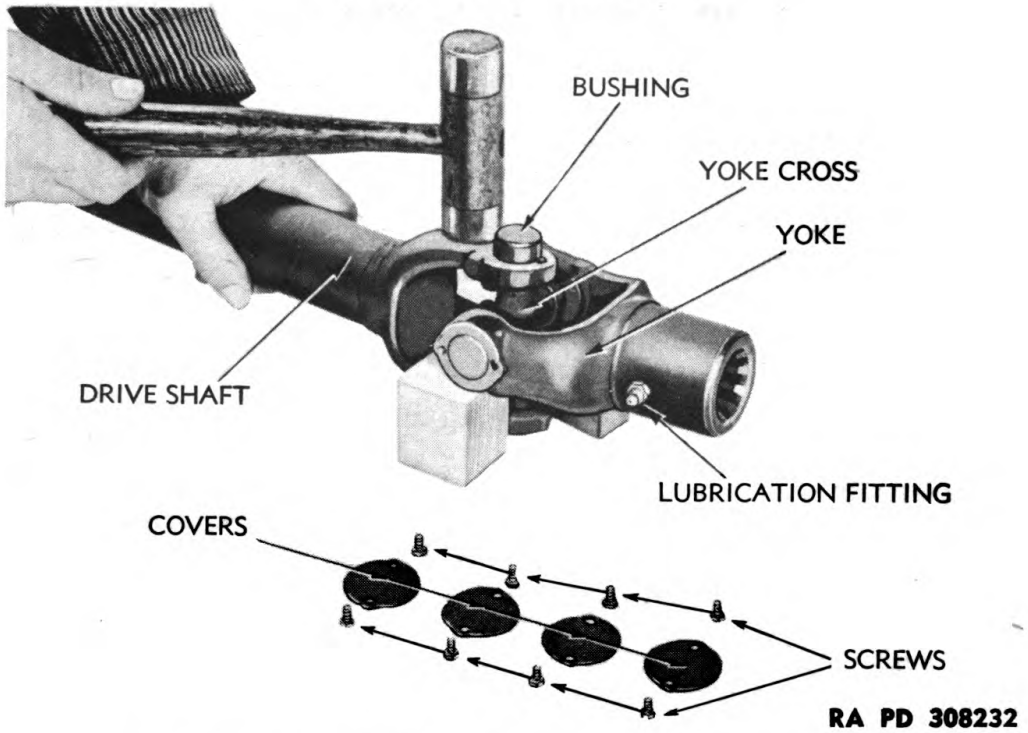

Figure 130 – Driving Bushings From Universal
b. Disassembly of Universal Joints. Remove the four covers from yokes by removing two screws from each. Place blocks under yoke as shown in figure 130 and drive down on other yoke. This will drive bushing out of one side of yoke (fig. 130). Turn universal over and drive opposite bushing out in same manner. Remove yoke